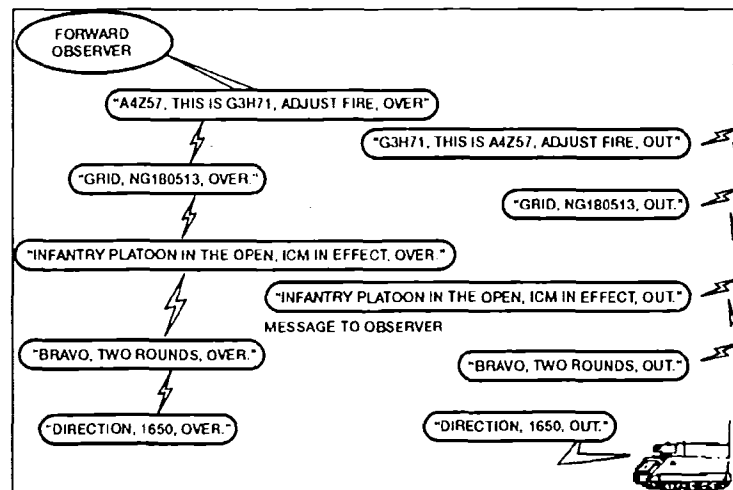

Figure 061-283-6003-1. Initial Fire Request
**Note.** The request for a fire mission would be similar to figure 061-283-6003-1.